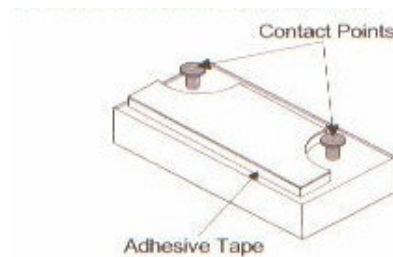

Figure 4
- With the control box turned on, short the two contacts, shown in Figure 4 on page 8, on the detector for about 5 seconds. It does not matter if the system is armed or disarmed, the alarm will be transmitted either way.